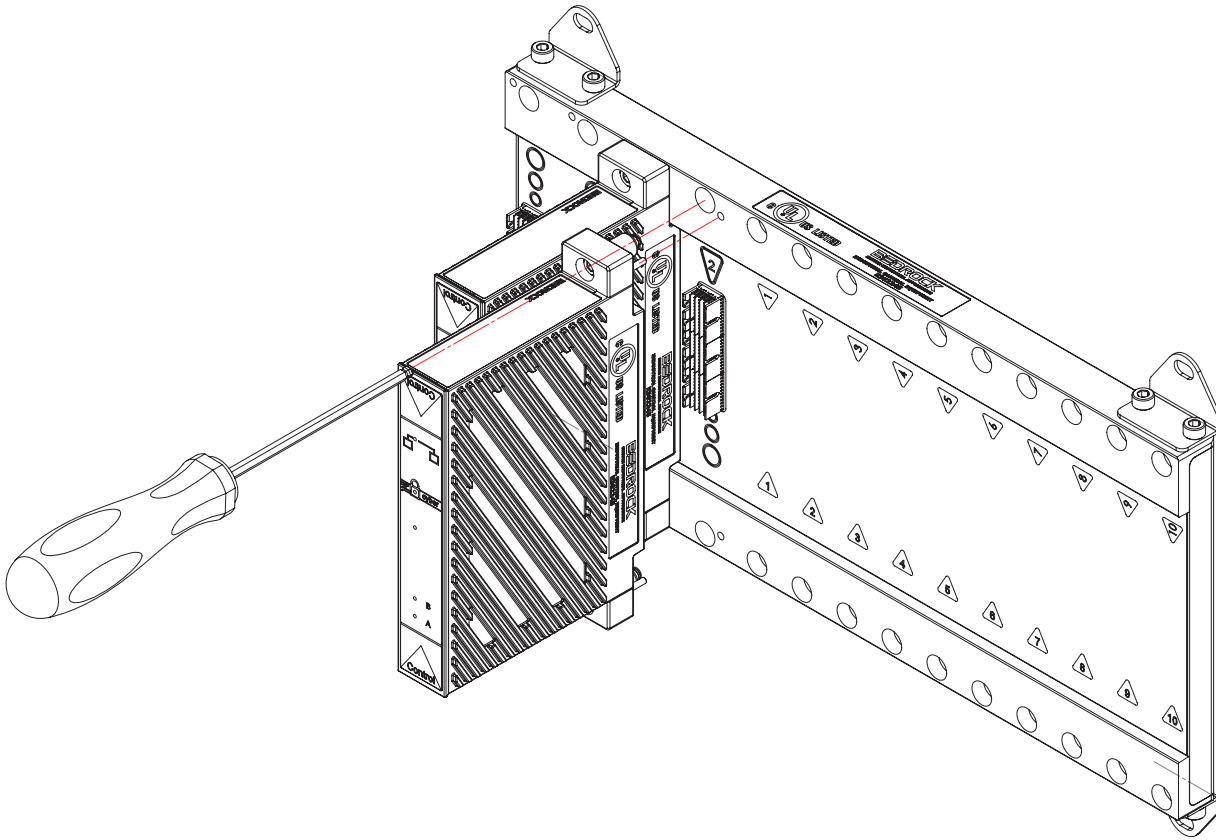

Figure 10-10 Redundant Controller Modules
3. If installing in a redundant system, install the second Controller into the second Controller slot as shown in Figure 10-10. The Controller will be flush against the BMI when seated properly.